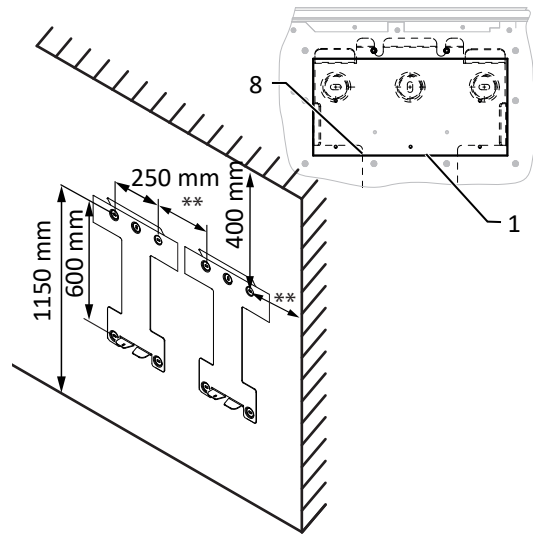

Fig. 14: Wall mounting
- Minimum clearances to be observed during installation: [See figure 14 [► Page 21]]
2. Suspend the device in the mount using the recess on the rear of the device. ([See figure 14 [▶ Page 21]]).